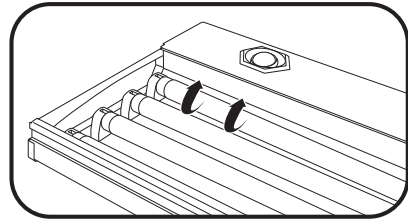

fig. D2 - Turn Bulb
4. Using both hands on either end of the bulb, turn the High Output T5 fluorescent bulb counter-clockwise until the prongs are visible. (fig. D2)